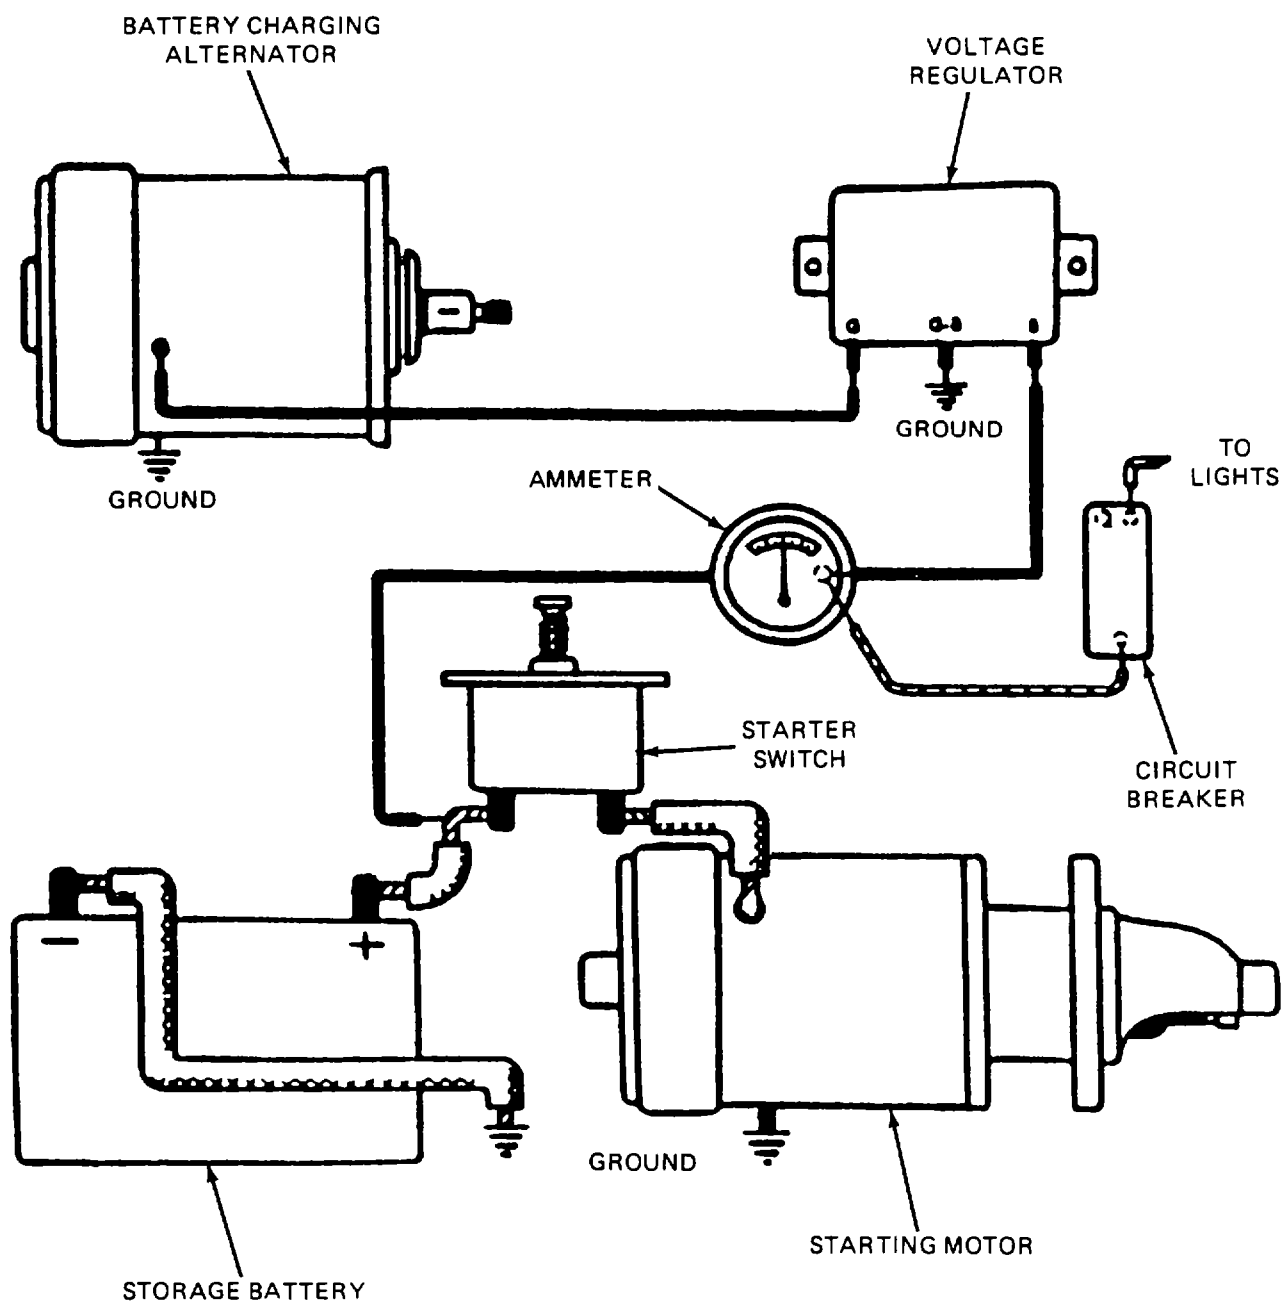

Figure 7-1. Basic Engine DC Electrical System
**7-1. Scope.** DC Electrical systems on most generators (figure 7-1) are 24 volt negative ground, direct current systems. Electrical storage for starting and standby circuits is provided by batteries. The batteries are connected in a series-parallel configuration to provide 24V dc current. In most of the larger generators there are many safety circuits to prevent accidental damage to the generator through mechanical failure. For example, if the oil pressure drops too low, a safety circuit will shut down the generator. These safety circuit will shut down the generator. These safety circuits can be bypassed with one master switch called the "Battle Short" switch. Use of this switch is to be limited to absolute necessity because severe damage to the generator may ensure. The "Battle Short" switch on the DOD 15-200KW Diesel Engine Driven Generator Sets bypasses all of the safety devices except the overspeed switch and the short circuit relay.